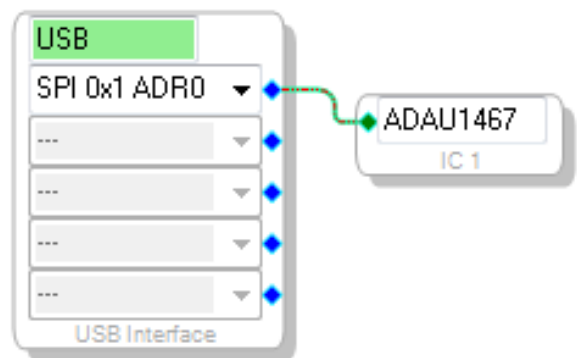

Figure 19. Connecting the USBi to an ADAU1467 in the Hardware Configuration Tab
- c. To connect the USBi block (USB interface) to the target integrated circuit (IC) block of the **ADAU1467**, click and drag a line, representing a wire, between the blue pin of the USBi and the green pin of the IC (see Figure 19). This connection allows the USBi to communicate with the **ADAU1467**. The corresponding dropdown box of the USBi automatically fills with the default mode and channel for that IC. In the case of the **ADAU1467**, the default communications mode is SPI, the default slave select line is 1, and the default address is 0.